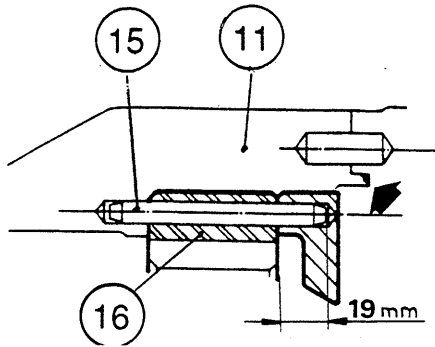

Fig. 3 - Normal duty
- **To reassemble the ring gear (16) (for the Normal Duty version), see part D.**
- **To reassemble the ring gear (16) (for the Heavy Duty version), clean the mating faces of the ring gear, the trumpet housing and the brake plate with a solvent. Remove any traces of old sealing compound. Dry the parts.**
**Apply a silicon sealing compound (of the «Silicomet» type) on the inner edge of the trumpet housing (11) and on the brake plate (34) as per the arrows (Fig. 3).**
- **Install seal (12) 8 mm back from the cup mating face with the spring towards the reduction gearbox.**
- **Protect the splines in shaft /2\ or /4\ in order to avoid damaging the seal (12).**